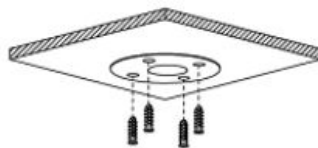

Figure 2-2
**Step 2** Place the anchor screws. See Figure 2-2.